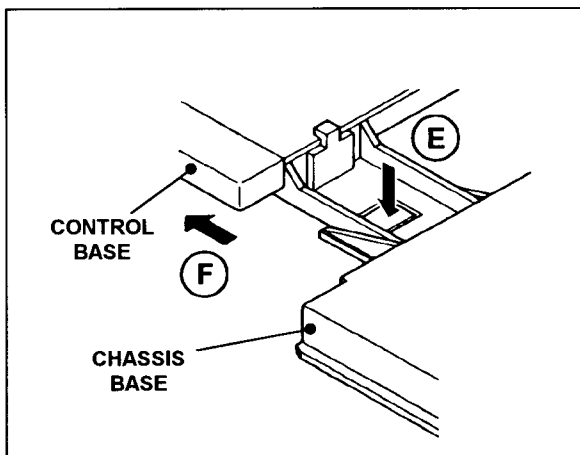

Fig.2
1. While pushing down the claws marked **E**, remove the CONTROL BASE in the arrow direction marked **F** as shown in Fig. 2.